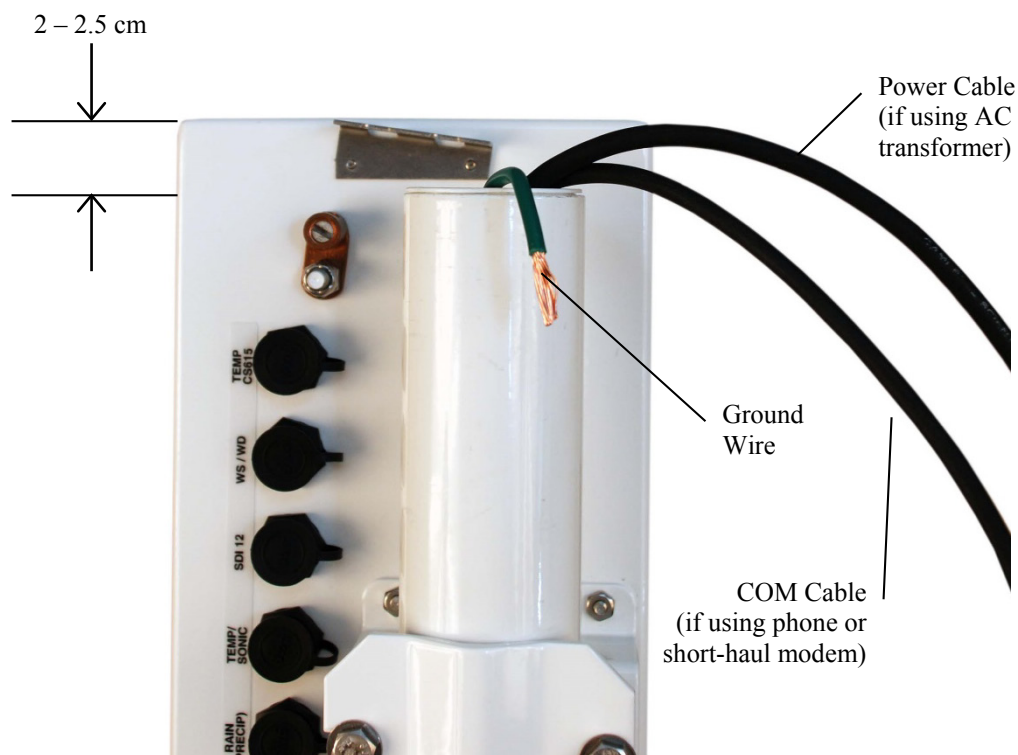

FIGURE 2-7. Enclosure Spacing Above Pole
1. Mount the ET enclosure on the ET Tower as shown in FIGURE 2-7.
- b. Loosen the mounting bracket bolts on the back of the enclosure wide enough to slide over the pole. Slide the enclosure over the pole. Position the enclosure so it faces east for northern latitudes or west for southern latitudes. The top of the enclosure should be 2 – 2.5 cm (3/4 to 1 in) above the top of the pole (see FIGURE 2-7).